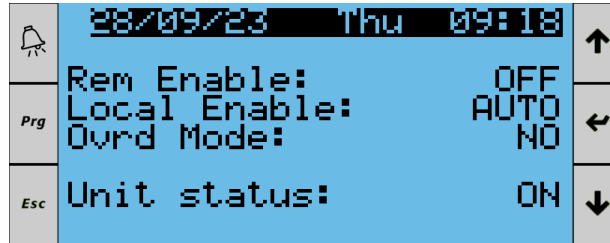

Figure 70. Home Screen, Page 1
11. Wait for the HMI to load the home screen shown in **Figure 70** below.